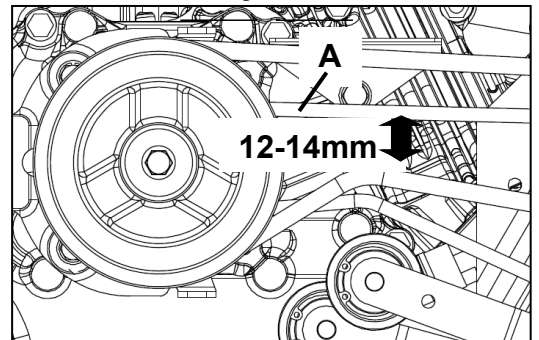

Figure 24
- Push the belt with a finger on (A, Figure 24) the belt must move from 12 to 14 mm. If the belt does not move accordingly, perform “tension wire” again.